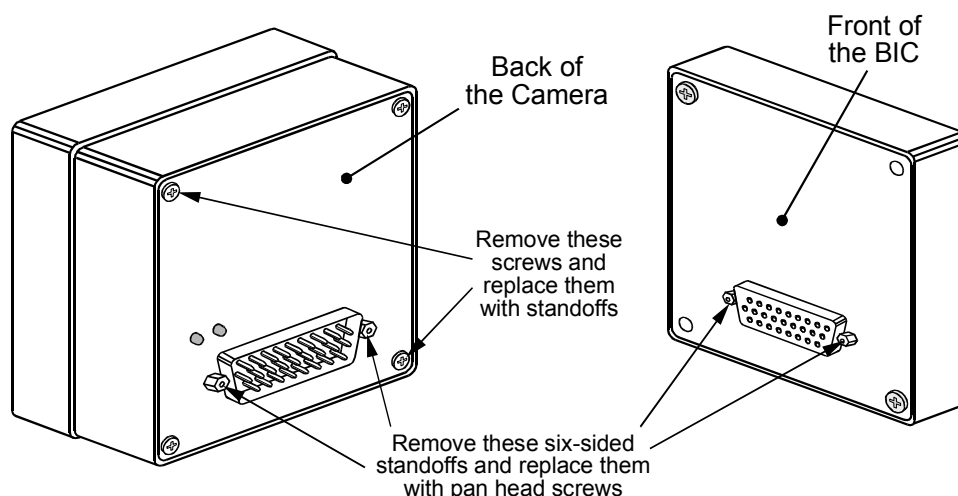

Figure A-11: Changing the Screws
1. Remove the six-sided standoffs on each side of the 26-pin plug on the back of the camera and on each side of the 26-pin receptacle on the front of the BIC (see Figure A-11). Replace the standoffs with pan head screws from the BIC installation kit.
2. Remove two screws from the back of the camera as shown in Figure A-11. Replace the screws with six-sided standoffs from the BIC installation kit